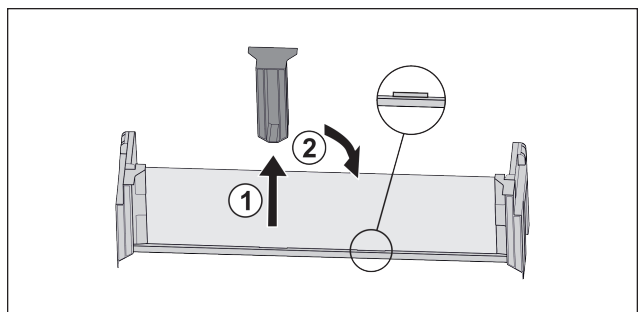

Fig. 21
- ▶ Pull off the middle holder Fig. 21 (1).
- ▶ Insert the middle holder in the second position Fig. 21 (2).